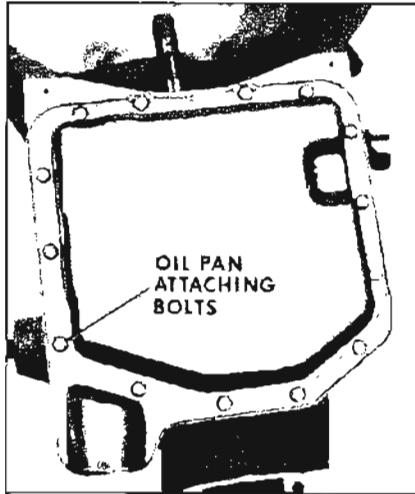

Figure 5-358
18. Install fourteen (14) oil pan attaching bolts. Torque bolts to 10-12 ft. lbs. See Figure 5-358.